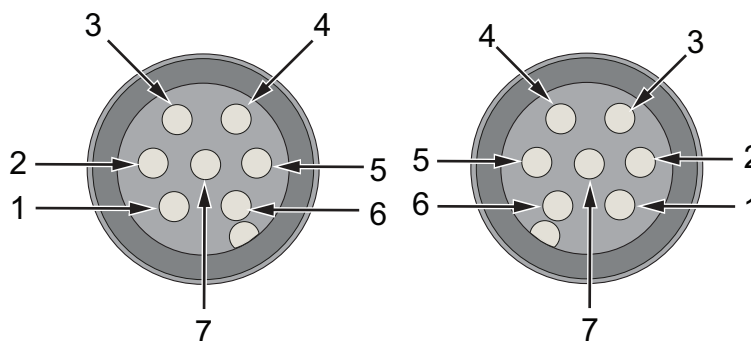

Figure 3-33: Relay Switches Connector Pin Diagram
The relay switches connector (see Figure 3-33) is a 7 way DIN connector. This connector supports the following relays:
**Note:** Female connector (see Figure 3-33) represents the view of the connector from the back of the printer.